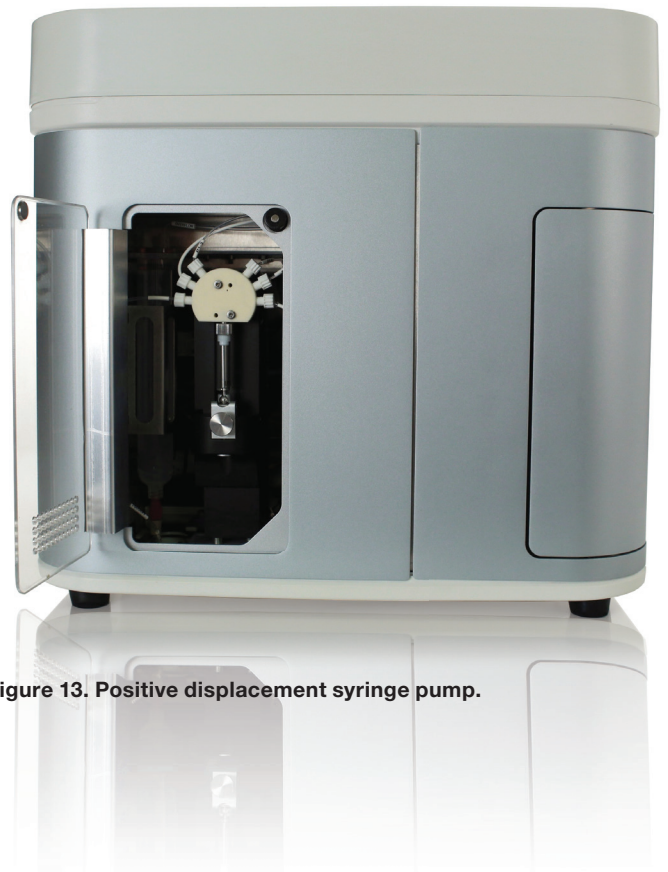

Figure 13. Positive displacement syringe pump.
- Sample delivered by positive displacement syringe pump (Figure 13) for volumetric analysis